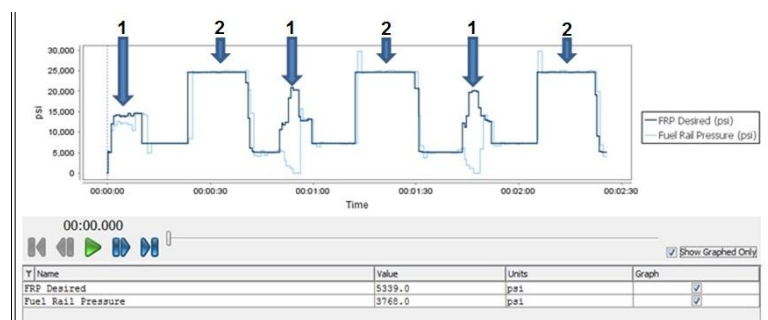

Figure 3: Fuel Rail Pressure Data Recording
2. Select the Parameters "FRP Desired" and "Fuel Rail Pressure" and study the FRP trace as well as Figure 3.
Figure 3 below shows the pin locations of the desired signals. As stated above the FPCV and FVCV 12V supply needs to be wired using ZTSE4762 with a banana clip extension (NOTE: Use electrical tape to wrap the exposed metal clip, failure to do so may result in personal injury or component damage). The Cam signal will require the use of the standard CPA cable connected directly to the sensor (This is reverse from Navistar's DT 9 & 10 Diesel Engine Connections)